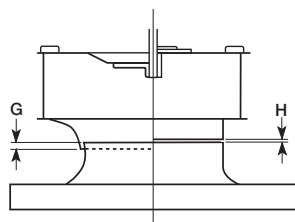

Figure 7 - Wheel Overlap and Gap Dimension
1. Check all fasteners and setscrews for tightness. The wheel should rotate freely and be aligned as shown in Figure 7.